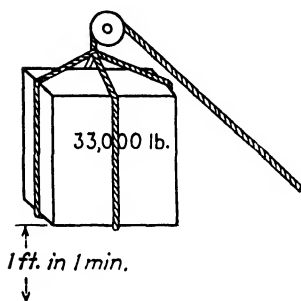

Fig. 267.—1 hp. = 33,000 ft.-lb. per min.
*One horsepower* of work is equal to 33,000 lb. being raised one foot in one minute. Can you explain Fig. 267?